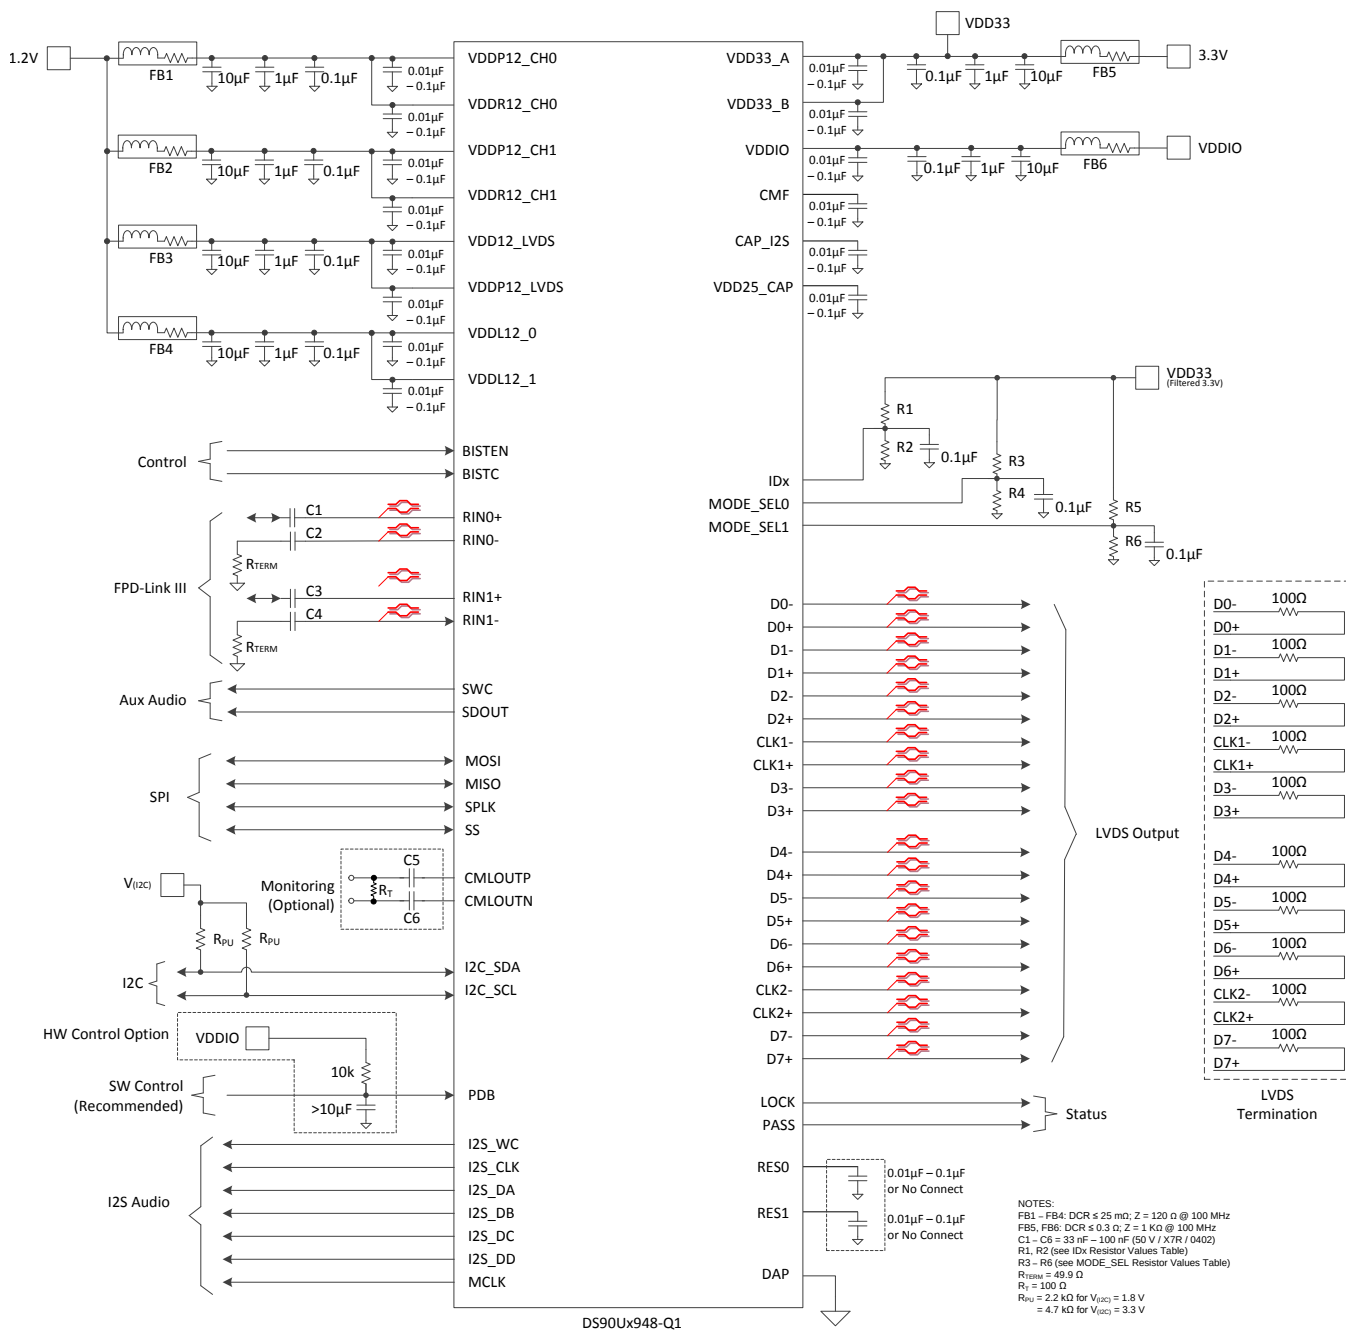

Figure 48. Typical Connection Diagram (Coax)
Bypass capacitors must be placed near the power supply pins. At a minimum, use four (4) 10- μ F capacitors for local device bypassing. Ferrite beads are placed on the two sets of supply pins (VDD33 and VDDIO) for effective noise suppression. The interface to the graphics source is LVDS. The VDDIO pins may be connected to 3.3 V or 1.8 V. A capacitor and resistor are placed on the PDB pin to delay the enabling of the device until power is stable. See Figure 48 for a typical STP connection diagram and Figure 49 for a typical coax connection diagram.